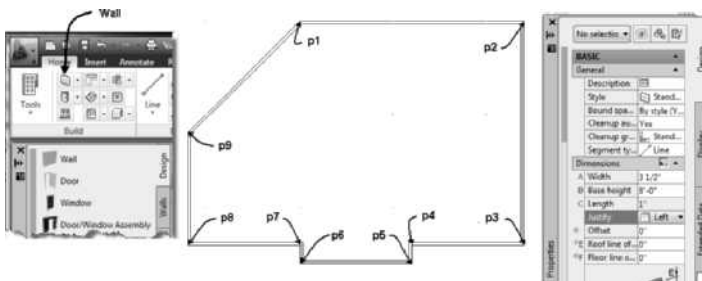

FIGURE 2.15 Close option used to draw the last wall segment
9. Edit the Design tab of the **Properties** palette as follows (the results should look like those in Figure 2.15): Basic: Style = **Standard**, Bound Spaces = **By style (Yes)**, Cleanup automatically = **Yes**, Cleanup group definition = **Standard**, Segment type = **Line**, A-Width = **3 1/2 [89]**, Base height = **8' [2440]**, Justify = **Left**, Offset = **0**, Roof line offset from base height = **0**, and Floor line offset from baseline = **0**.
10. Begin drawing the walls as shown in Figure 2.15 using direct distance entry. Type the distances in the dynamic dimension field of the workspace as follows:
Start point or: 150',50' [13750,20000] ENTER (*Point p1 established as shown in Figure 2.15.*)
(Wall segments will be drawn as shown in Figure 2.15.)